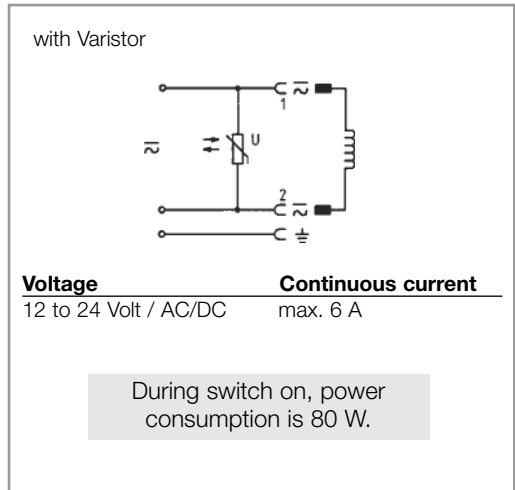

Fig. 14.1 Wiring diagram
- Cable connection - see wiring diagram in Fig. 14.1